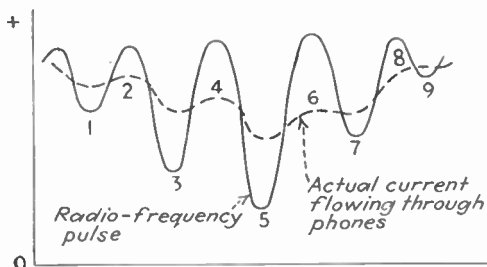

FIG. 143. Pulsating direct current in phones.
the phone coils. The wave-form diagram in Fig. 143 shows several loops of the pulsating plate current. These pulsations flow through the magnets of the phones and set up sound waves.
Loop 2. The first radio-frequency pulsation, (2) in Fig. 143, will create a weak magnetism in the phone magnets,
Space 3. In Fig. 143 the space between loops (3) in the wave-form picture shows the time when less current is flowing. Now the magnets begin to lose some of their magnetism, but before the diaphragms have time to bend back, loop 4 arrives.
The heavy dotted line in Fig. 143 shows the wave picture of an imaginary current which represents the average of the amplitude of the radio-frequency current loops and the spaces between loops.
1. Which line in the wave-form picture (Fig. 143) represents the current actually flowing through the phones?
4. Explain how each succeeding loop, in the group of loops in Fig. 143, adds to the pull of the one just before it.